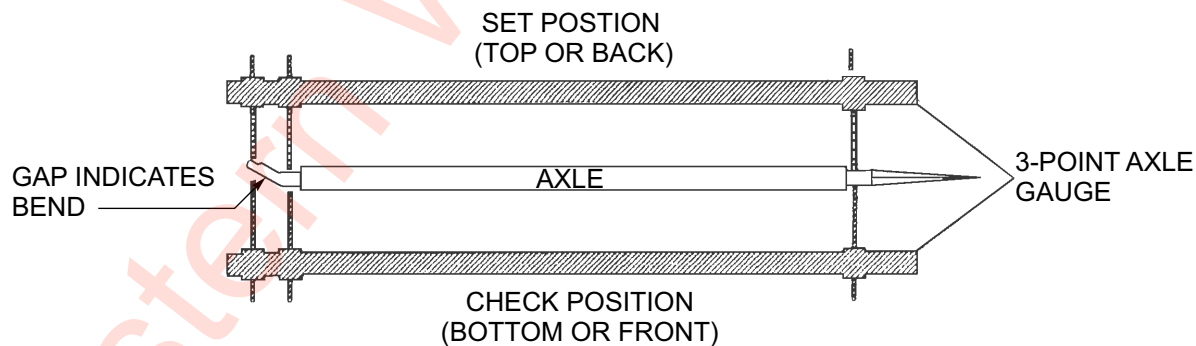

Figure 4-6: Checking Axle for Bend
2. Place a 3-point axle gauge against the front side of the axle, and adjust each axle gauge point to the axle. (Double point end against the inner and outer wheel bearing surfaces of the spindle being checked and the other point on the inner bearing surface on the other spindle (See Figure 4-6.)
3. Move the axle gauge and place against the back side of the axle. If either of the points of double point end fails to touch the axle surface, a bent spindle is evident. A point gap of .015" or more is considered excessive tire "toe" and the axle must be replaced (See Figure 4-6.)